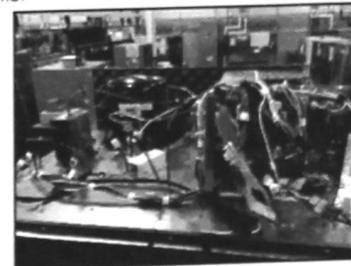

FIGURE 20
21. Set the HV box assembly on top of unit for reassembly as shown in Figure 20. The screws on the top will not match up with the new HV box assembly.